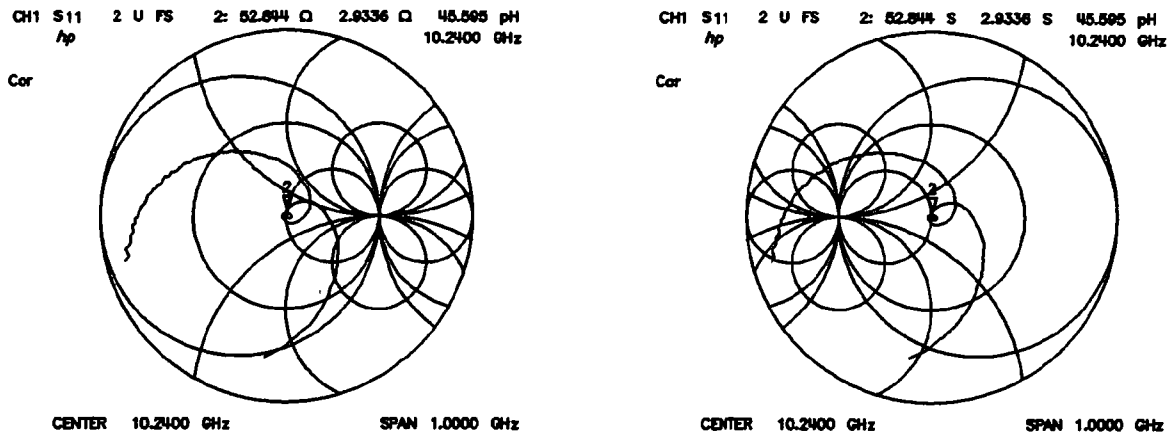

Figure 5–13. Standard and Inverse Smith Chart Formats
**POLAR** (POLA) displays a polar format (Figure 5–14). Each point on the polar format corresponds to a particular value of both magnitude and phase. Quantities are read vectorally: the magnitude at any point is determined by its displacement from the center (which has zero value), and the phase by the angle counterclockwise from the positive x-axis. Magnitude is scaled in a linear fashion, with the value of the outer circle usually set to a ratio value of 1. Since there is no frequency axis, frequency information is read from the markers.